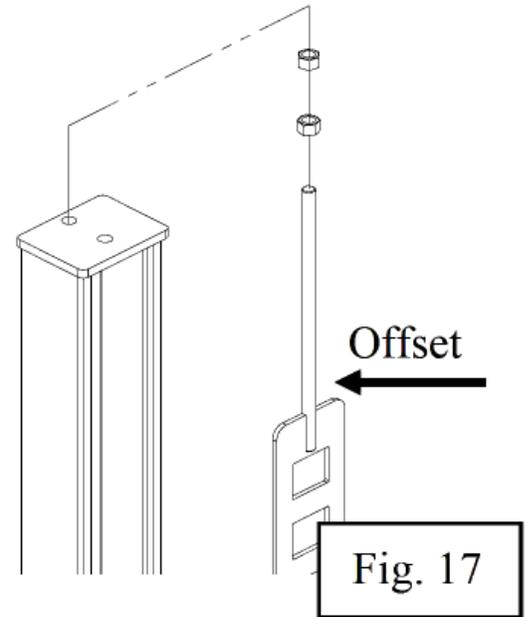

Fig. 17
- Place the latch rack into the back of the column as shown in fig.17. Pay attention that the latch rack is offset from the center line of the thread stud. It should be oriented toward the back of the column from the center line of the thread stud.